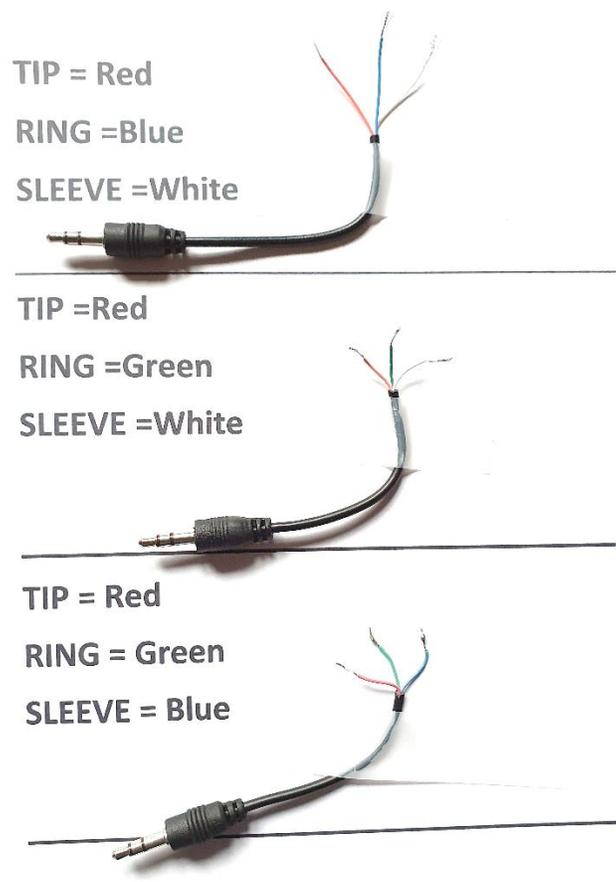

Figure 3: Examples of three different completed cable and “AUX” plug.
- Refer to Figure 3 which shows some examples of different completed cable and plug assemblies.